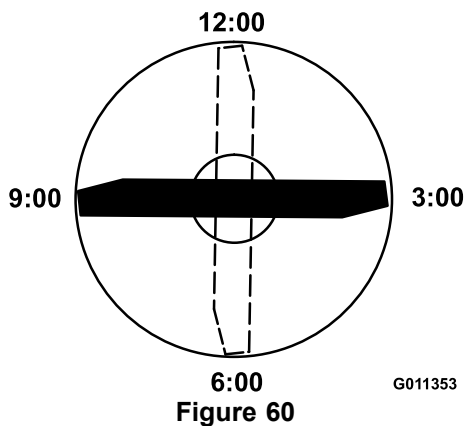

Figure 60
4. Position the cutting edge of the marked end of the blade at 12 o'clock (straight ahead in the direction of mowing) (Figure 60) and measure height from table to cutting edge of blade.
5. Rotate the marked end of the blade to the 3 and 9 o'clock positions (Figure 60) and measure the heights.